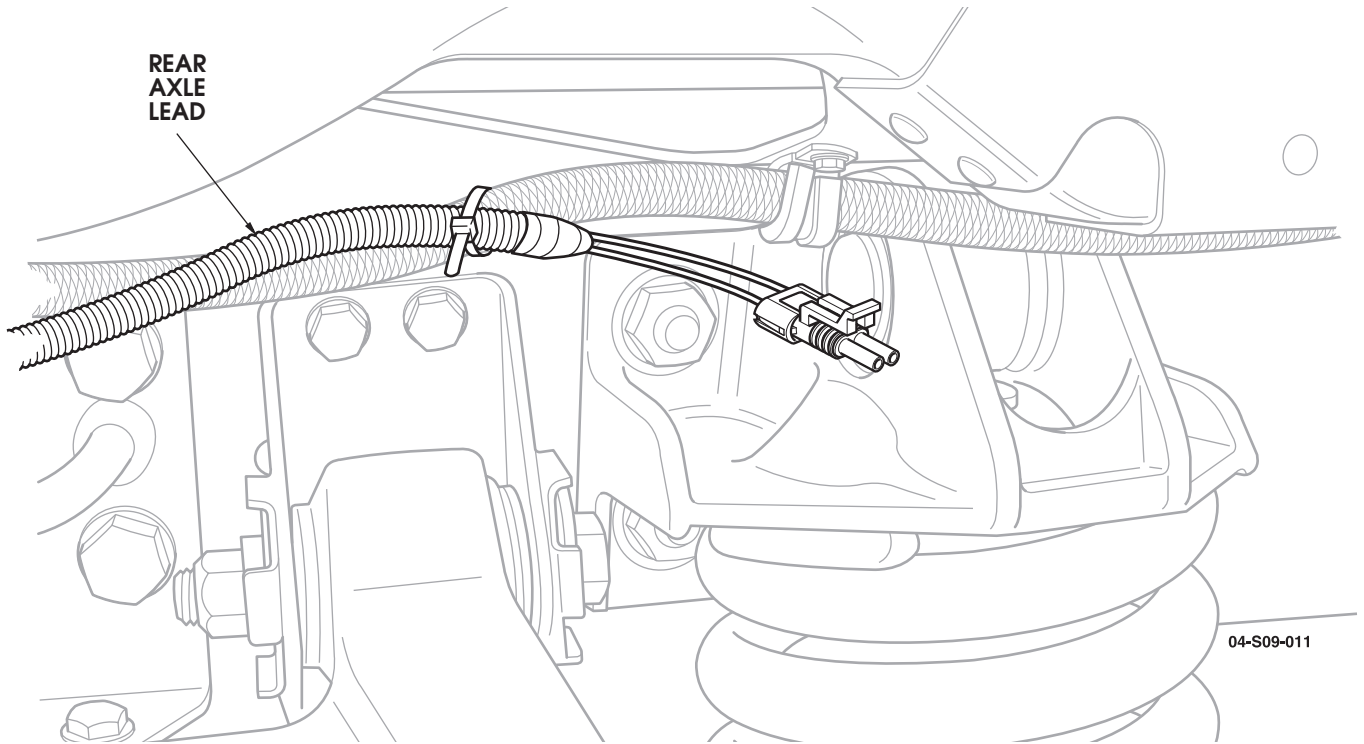

Figure 19: Rear lead ends at the left rear shock mount area.
32. Continue to route the rear lead up the left rear wheel well beside the underbody harness over the c-beam body mount to the upper shock mount area (See Figure 19).